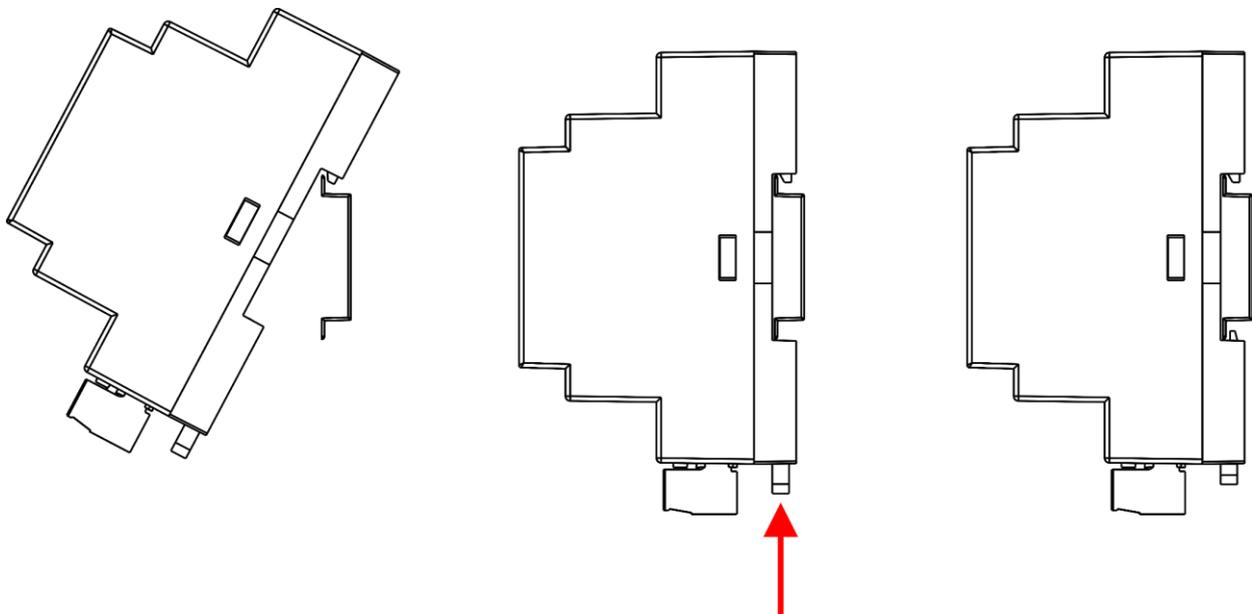

Fig. 04
- 02) Push the **DIN rail locks (06)** to mount the device firmly on the DIN rail (see Fig. 04).